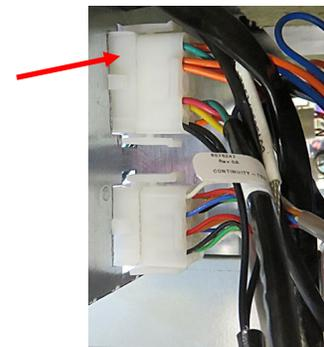

Figure 5
- b. If replacing the high limit, removing the side panel allows access to the probe and top connector on the rear of the control box (see Figure 5). Using a pin pusher, push the wires from the connector.